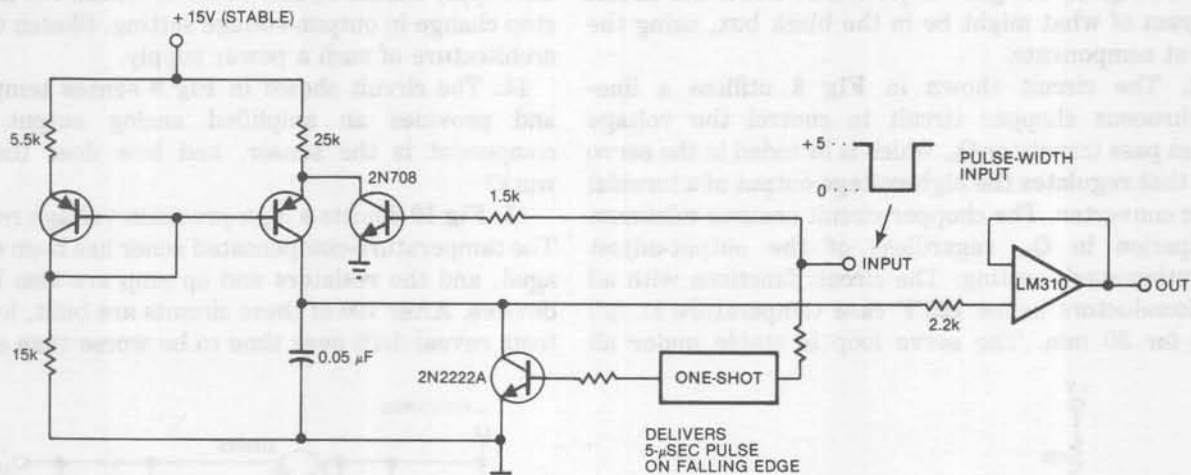

Fig 7—Conversion of pulse widths to voltages suffers serious errors above 8 or 9V when this circuit is configured as shown. What's the problem?
9. The configuration shown in Fig 7 is a pulse-width-to-voltage converter—it provides a voltage proportion-